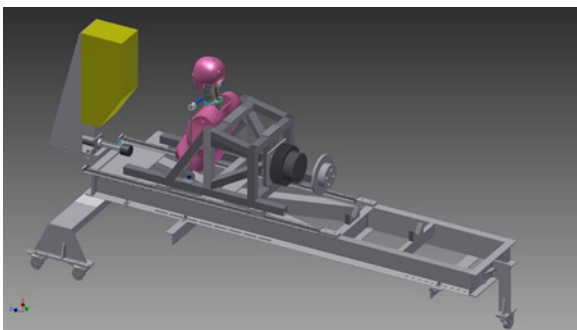
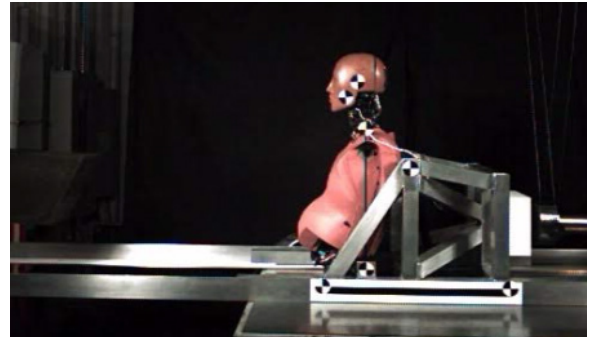

Figure 1- Current Test System
Figure 2- Obsolete Test System
Beginning in 2008, Humanetics in collaboration with the BioRID GBUM and then TEG began developing the TRA-100/101 certification sled and rail system (fig. 1) to replace the original TF-480-0300 track and TRA-001 test sled (fig. 2). The main purpose of the upgrade was to control the unrestricted upward (Z) motion of the sled as it was traveling down the track (X direction) during and after impact, by using a system of linear bearings and “V” rails that couple the sled to the track. The removal of the unwanted Z sled motion has eliminated that motion as a contributor to test variability.